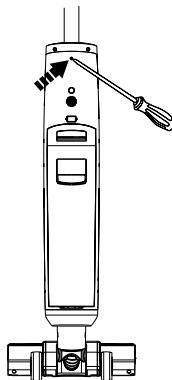

Fig 2
- 2.To remove: Insert a long object into the release hole at the back of the unit. Press the internal latch while pulling the handle upward at the same time (Fig 2).